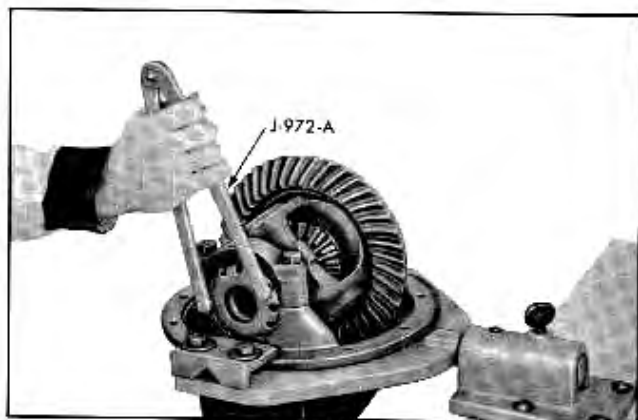

Fig. 4-13 Turning Adjusting Nuts With Wrench J-972-A
3. Back off right hand adjusting nut using Adjusting Wrench J-972-A (Fig. 4-13) and watch outer race of side bearing to see if it turns with adjusting nut. (NOTE: The right hand adjusting nut is farthest from ring gear.) Race should turn with the nut, as nut is backed off, until nut is turned two to three notches (holes in adjusting nut); count notches from original mark to point where race stops turning to check original adjustment and retighten two to three notches.
2. Back off right hand adjusting nut (Fig. 4-13) one notch and tighten left hand adjusting nut one notch (each notch of adjustment will change backlash .003"-.004"). **CAUTION:** Do not decrease backlash below minimum specification of .003". Tap each bearing cap and rock case to ensure proper seating of bearings.